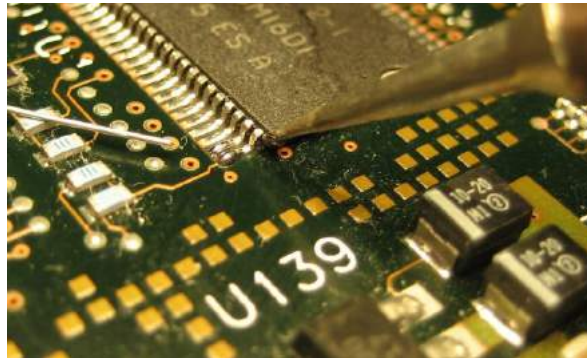

Figure 64 Solder Added to Target Points
- 1 Add some solder to the target points in the DUT. **Figure 64** on page 87 shows extra solder added to the pads for the first two pins on an IC package.